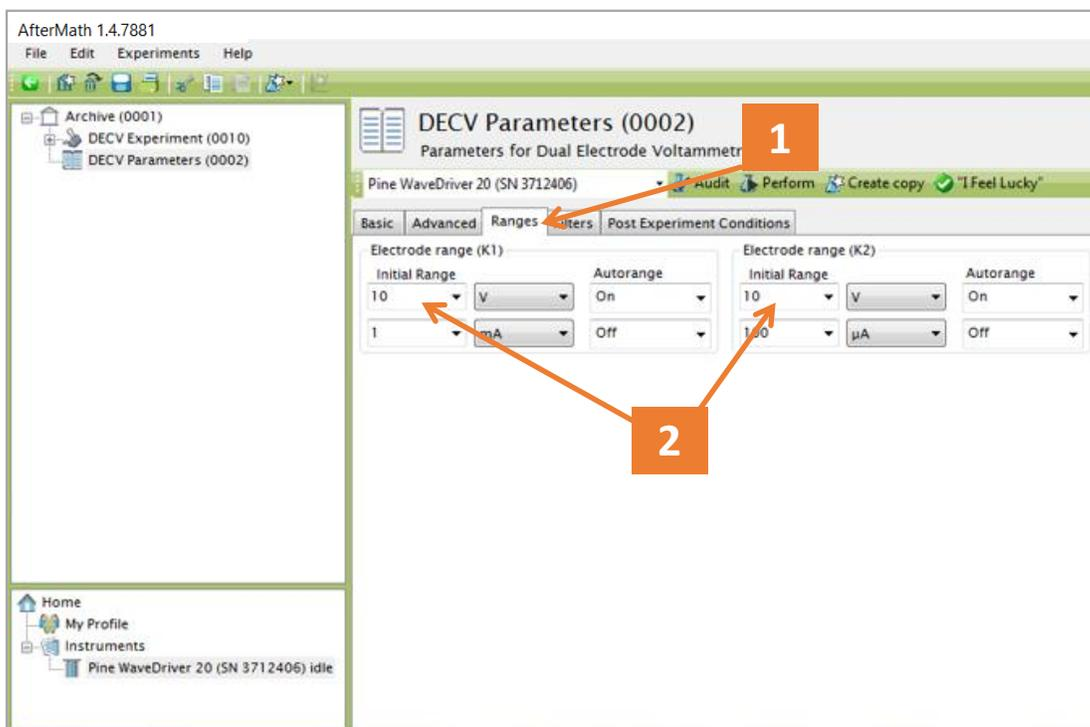

Figure 4-10. Adjusting the Potential Range on the “Ranges” Tab
1. Click the "Ranges" tab (see: Figure 4-10).